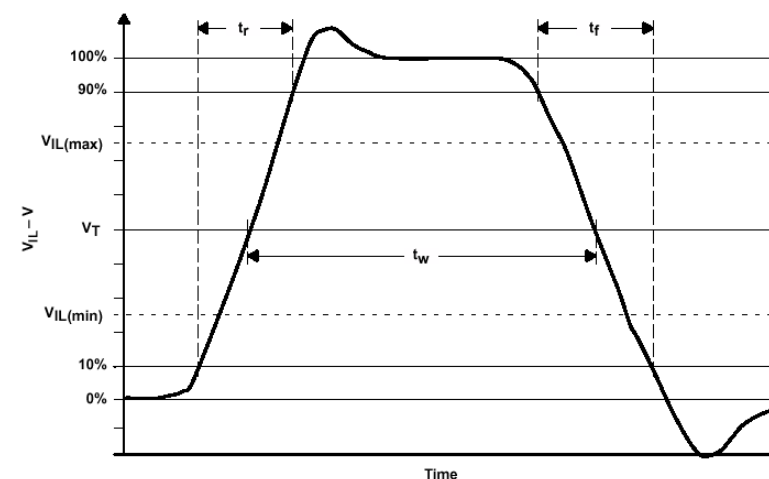

Figure 7.10 Definition of Rise and Fall times
- Therefore, correct operation of the circuit can be ensured only if the rise and fall times of the signal at the input do not exceed certain values. (See Figure 7.10)